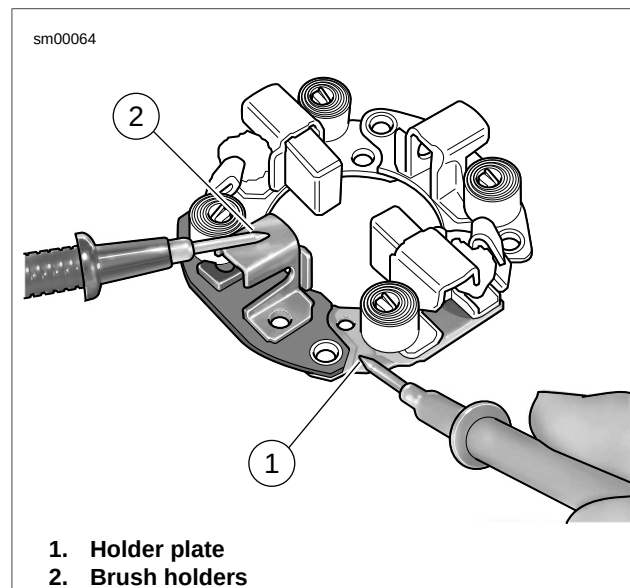

Figure 5-12. Starter Brush Holder Insulation Test
- a. Touch one probe to the field wire (1).
- b. Touch the other probe to each of the brushes attached to the field coil(s) (2).
15. See Figure 5-12. Test BRUSH HOLDER INSULATION with an ohmmeter or continuity tester.
- a. Touch one probe to holder plate (1).
- b. Touch the other probe to each of the positive (insulated) brush holders (2).